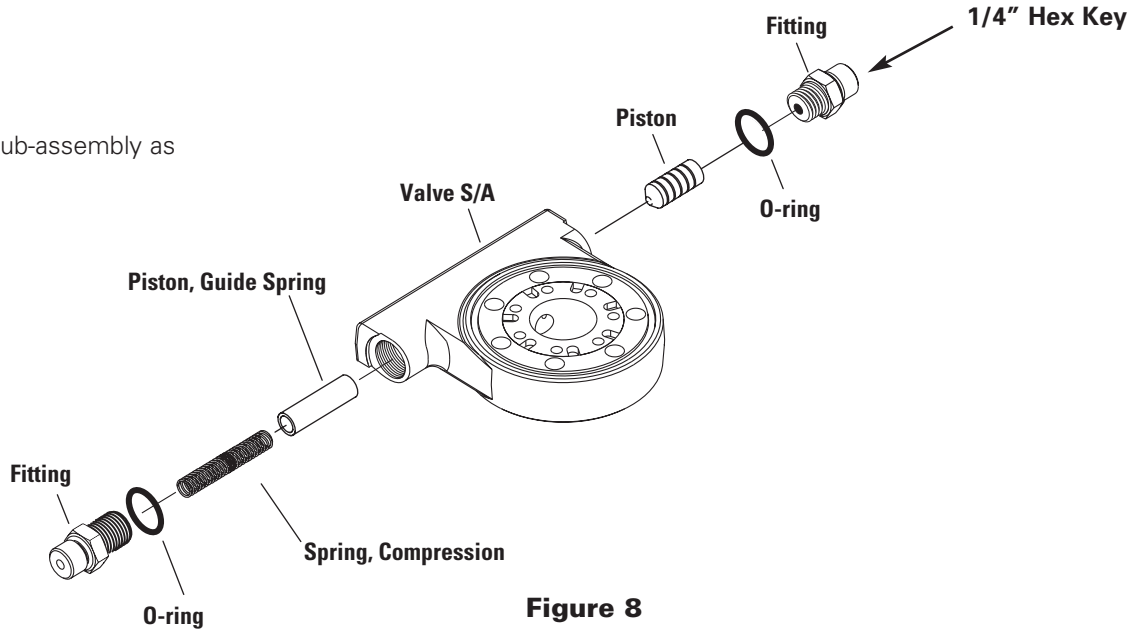

Figure 8
24. Disassemble valve sub-assembly as shown in figure 8.